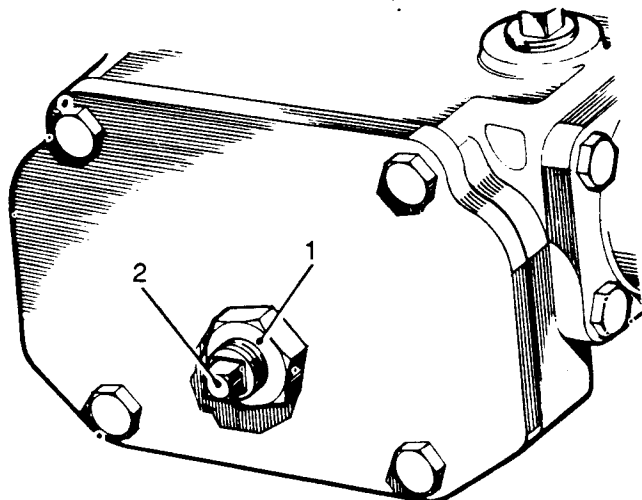

Fig L3.1
(2) Refer to Fig L3.1. Slacken the lock nut (1) and adjuster (2).
(3) Screw in the adjuster (2) until steering wheel backlash is taken up.
(4) Screw in a further one-half flat (maximum) to allow for lock nut (1) tightening.
(5) Tighten the lock nut without disturbing the adjuster (2).